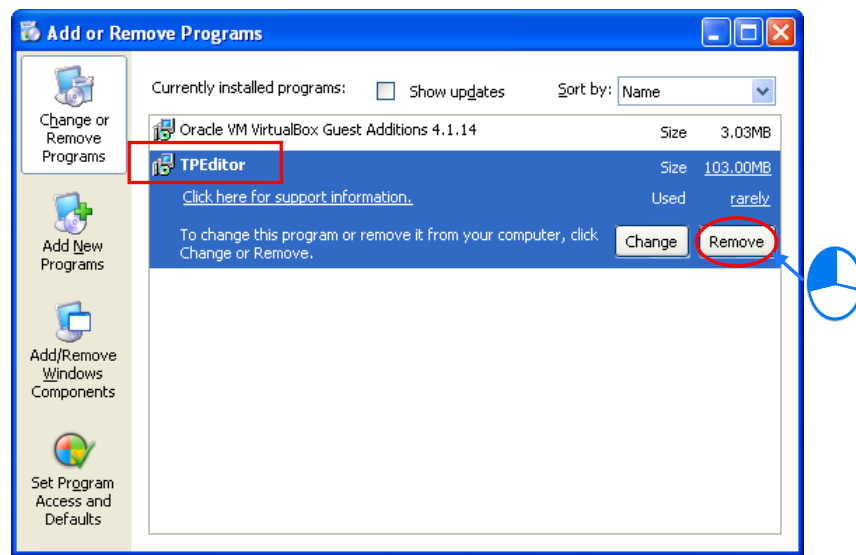

Figure 1-7 Uninstalling TPEditor
(1) There are two methods of uninstalling TPEditor.
- Method 1: Open the **Control Panel** window, and click **Add or Remove Programs**. In the **Currently installed programs** box, click **TPEditor x.xx**, and then click **Remove**, as shown in Figure 1-7.